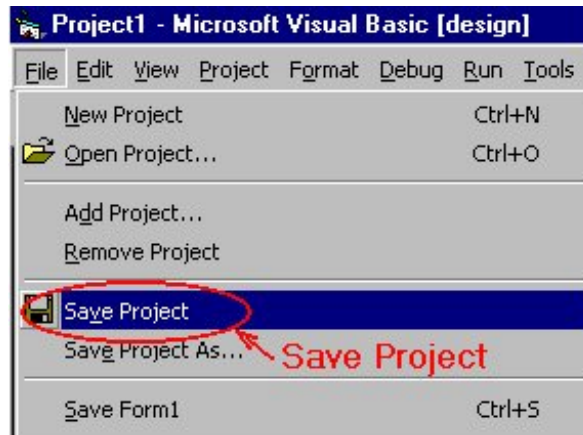

Figure 3-1-3. Saving Project
- Save the project into the folder that you previously created. Refer to Figure 3-1-3 to 3-1-5.